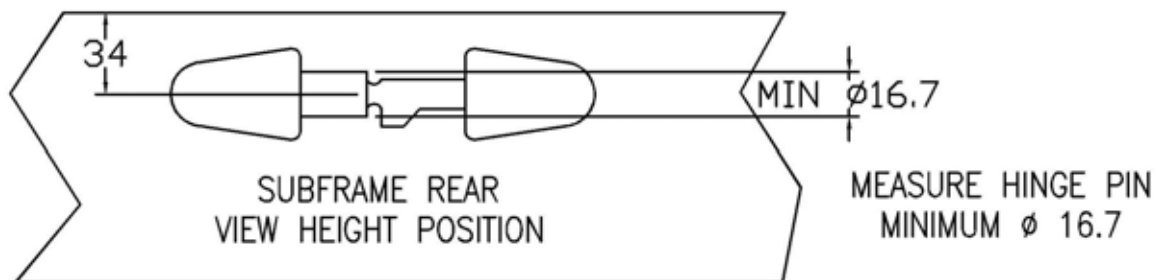
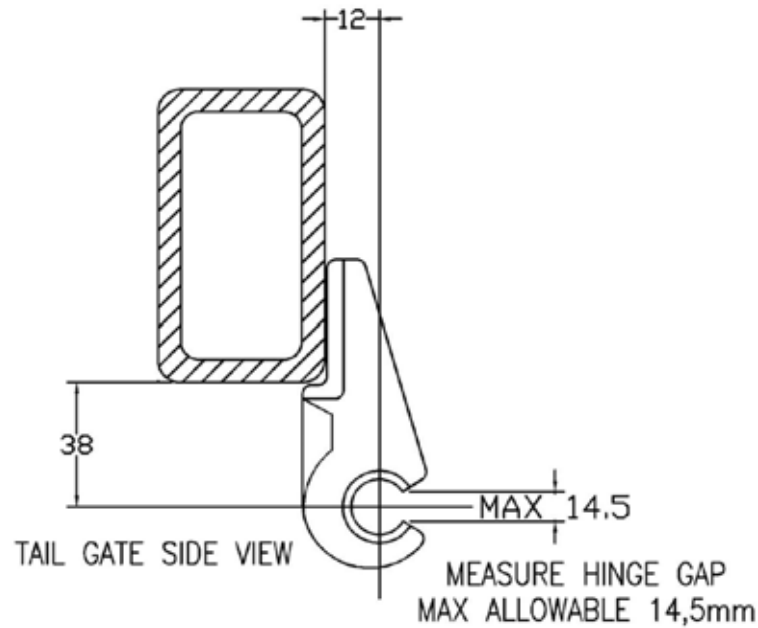

Figure 1 Hinge Mount Pivot Pin
Figure 2 Hinge Gap
- c. **Welding Procedure.** The welding procedure is to be in accordance with AS 1554.1 (SP).
- 10. **Inspection Criteria.** Visually inspect all tailgate/sidegate hinges and hinge mounts for signs of damage, deformation or cracking and replace them as required. Using suitable precision measuring equipment, measure the diameter of the hinge mount pivot pin along its length where the hinge rotates when fitted. If the diameter is less than 16.7 mm the hinge mount must be replaced (Figure 1). Measure along the opening of the hinge, if the gap of the hinge is greater than 14.5 mm the hinge must be replaced (Figure 2). All dimensions are in millimetres unless stated otherwise.
12. **Installation.** Position the new item/s and weld in accordance with Para 8 (Figures 1, 2, 3 and 4).